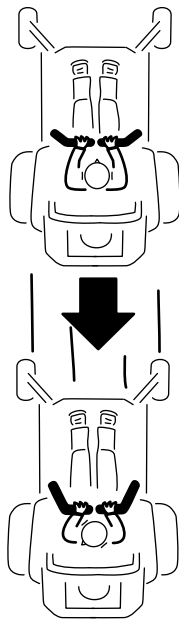

Figure 20
- To go backward, slowly pull the motion-control levers rearward (Figure 20).